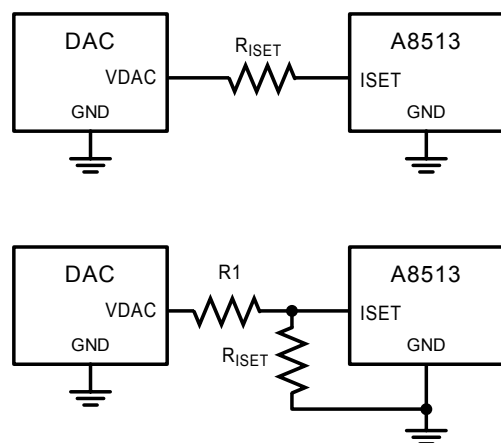

Figure 8. Simplified diagram of voltage LED current control (upper) single resistor, and (lower) dual resistors.
Figure 8, top panel is a typical application using a DAC to control the LED current using a single resistor connected to the ISET pin. The  $I_{SET}$  current is controlled by the following formula:
• For a dual-resistor configuration (lower panel of figure 8), the ISET current is controlled by the following formula: